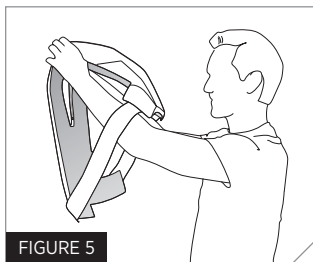

FIGURE 5
- Pull PFD over your head like a T-shirt, pushing your arms through the spaces created by the side straps (Fig. 5)